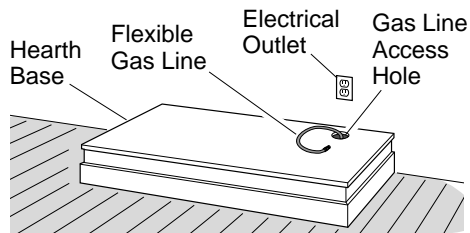

Figure 29 - Placing Hearth Base Accessory Against Wall
2. When installing blower, install a properly grounded, 120 volt three-prong electrical outlet at fireplace location if an outlet is not there. If possible, locate outlet so cabinet mantel will cover it when installed (see Figure 29).
4. Place hearth base accessory against wall at installation location. Cut an access hole in hearth top to run flexible gas line to fireplace (see Figure 29). Make sure to locate access hole so cabinet mantel will cover it when installed. **Note:** You can secure base to floor using wood screws. Countersink screw heads and putty over.